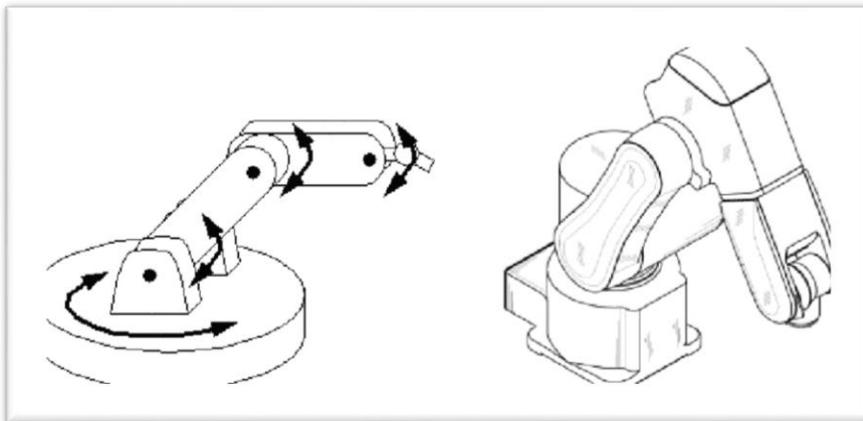

Figure 1- Sample Robot Arm
1. Robotic arm should have minimum 4 degrees of freedom (DoF). The number of DoF can be increased optionally (example figure 1)